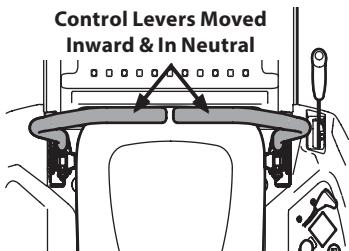

Figure 22
- Move the RH and LH lapbar drive control levers inward in the neutral position which also disengages the parking brake. See Figure 22.